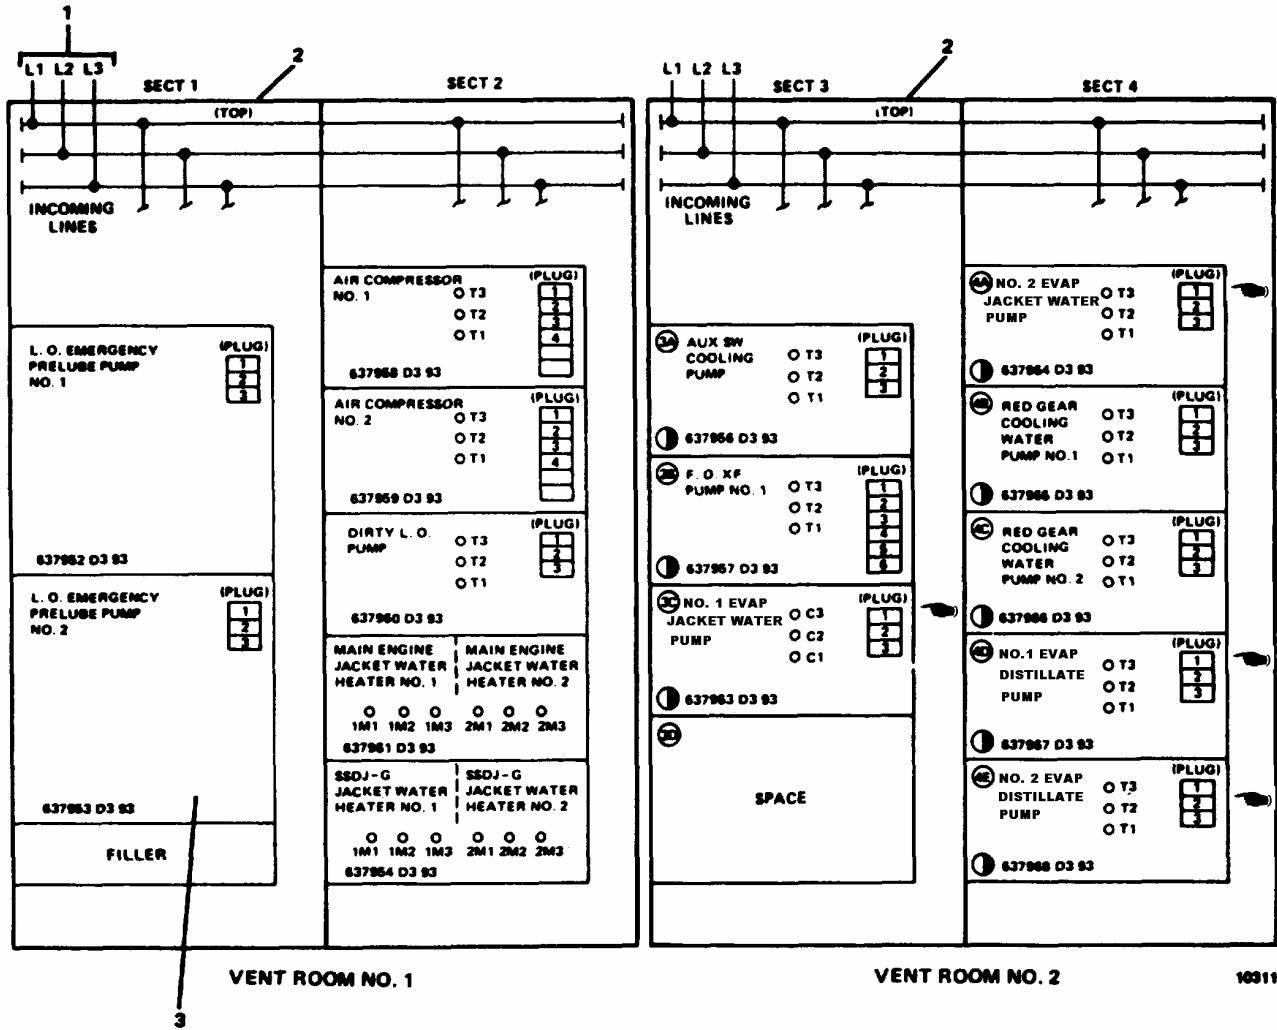

Figure 2-196. MCC Auxiliary Machinery Vent No. 1 and No. 2.
- a. Remove associated hardware from top cover panel (2, FIGURE 2-196) and remove panel.
- b. Tag and disconnect all incoming wiring (1) to controller bus bars and terminals.
- c. Remove associated hardware anchoring motor control center (3) to metal deck mounting pads.
**Several crew members are required to remove controller unit (3) from its mounted position.**
- d. Lift motor control center (3) up from mounting pads and place on engine room deck.